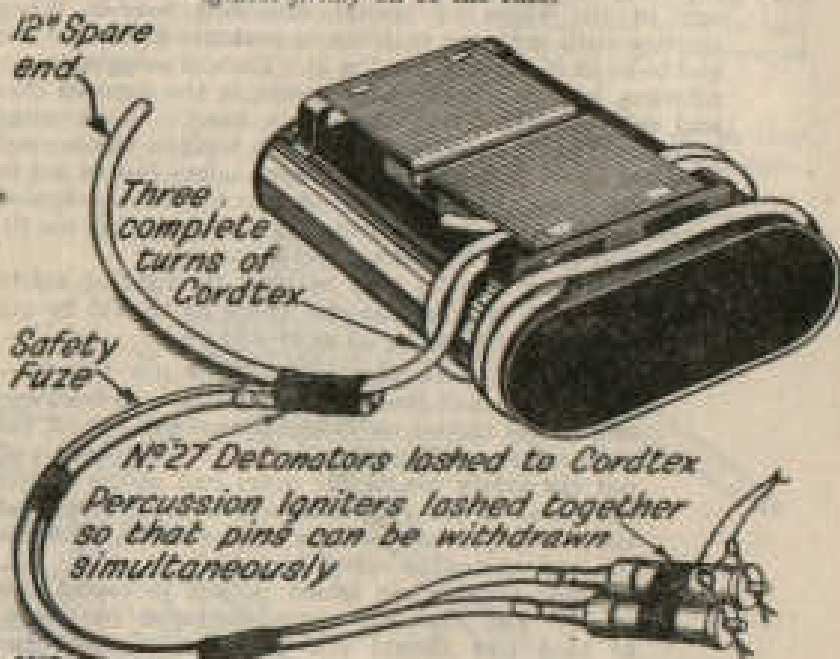

Fig 6. No. 75 grenade prepared as a demolition charge
- (b) *Initiation*.—The grenade will be initiated by wrapping three turns of detonating fuse (see Sec 5) round the end containing the primer, as shown in Fig 6. It is NOT to be detonated by the igniter set supplied for use when it is employed as an anti-tank mine. If an attempt is made to initiate it with detonator and safety fuse or detonating fuse in one of the normal detonator holes, failures up to 50 per cent may result. There are two reasons for this. First, when the detonator is fired by the igniter set (i.e. when in use as an anti-tank mine), the pressure on the plate tends to press the detonator down on to the priming charge. This does not occur when the grenade is used as a demolition charge. Secondly, the safety fuse may contract in length as it burns and draw the detonator back so that it is not directly over the priming charge when it explodes.
(a) *Inserting safety fuse into detonator.*—Cut one end of the fuse with a sharp knife on a hard surface, taking care to make a clean cut; take a detonator from the box and empty any sawdust or other foreign matter out of it by tapping on the thumbnail. Insert the squared end of the safety fuse into the detonator and push it gently but firmly as far as it will go. Do NOT employ any screwing action. Hold the safety fuse between the third finger and thumb and crimp the detonator on to the fuse near the open end with a pair of crimping pliers, holding the detonator in place with the forefinger while doing so (see Fig 6); or use the marlin spike of a jack knife. The use of the teeth is not recommended. NEVER CRIMP THE DETONATOR NEAR THE CLOSED END.
(i) *Igniter, safety fuse, percussion Mk 3* (see Fig 6).—Crimp the small brass tube which extends from one end of the igniter on to the square-cut end of the safety fuse. When the fuse is to be lighted pull out the safety pin at the other end of the igniter by means of the ring attached to it. Pulling out the safety pin releases the striker which fires the cap and ignites the safety fuse.
All ranks concerned must understand the possible causes of failure and must also realize that however much care is taken, no initiating set can ever be guaranteed as 100 per cent certain. The set cannot be tested, as the only test is to fire it. Consequently on all important demolition work, particularly assault work, and preferably always, **TWO INITIATING SETS SHOULD BE USED.** This gives a reasonable guarantee against failure. The use of two sets, whatever the importance of the job, is a good habit to form (see Fig 6).
NOTE.—The 75 grenade has a special primer incorporated in it and is initiated with 3 turns of cordtex round the end opposite the filler cap as shown in Fig 6.